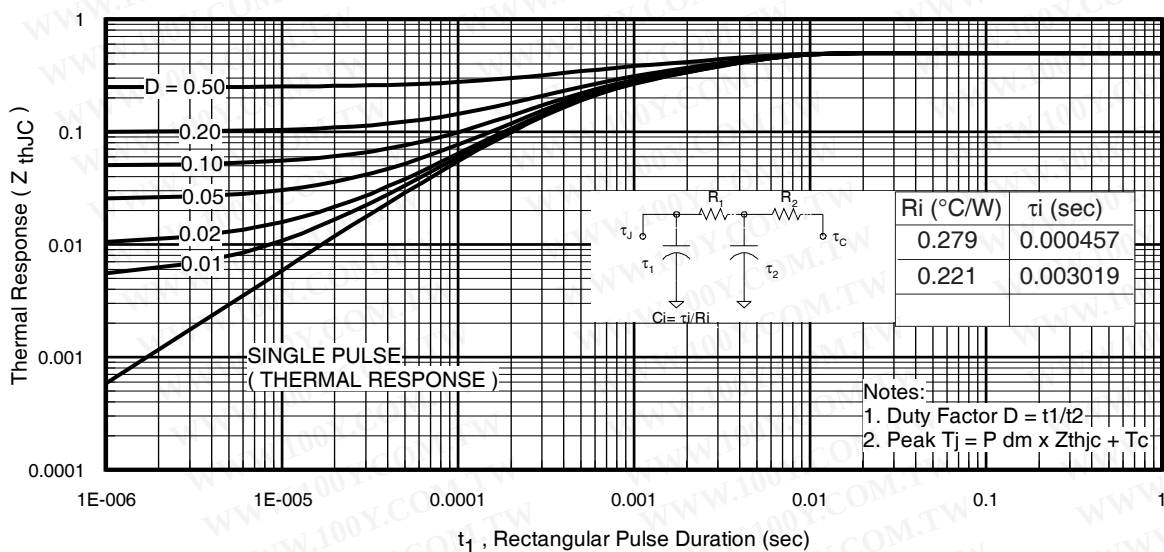

Fig 11. Maximum Effective Transient Thermal Impedance, Junction-to-Case
- ① Repetitive rating; pulse width limited by max. junction temperature. (See fig. 11).
- ② Limited by T_{Jmax} , starting $T_J = 25^\circ\text{C}$, $L=0.095mH$, $R_G = 25\Omega$, $I_{AS} = 75A$, $V_{GS} = 10V$.
$Z_{thJC}(D, t_{av})$ = Transient thermal resistance, see figure 11)